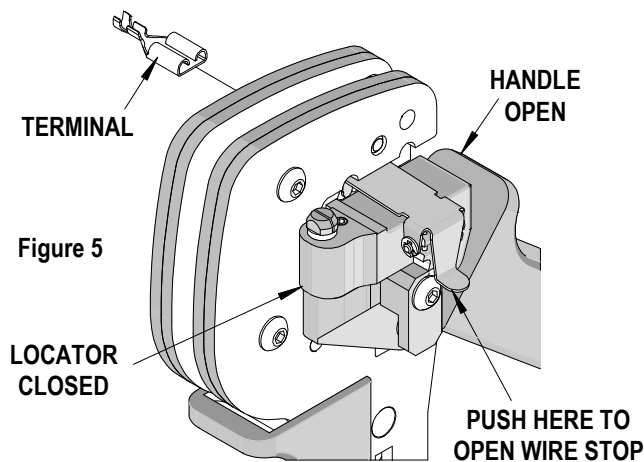

Figure 5
3. Swing the terminal locator away from the crimp tool shown in Figure 4. Some terminals with large insulation grips may interfere with the crimp tooling when swinging the locator into position. The terminal must then be loaded into the locator in the closed crimp position. See Figure 5.